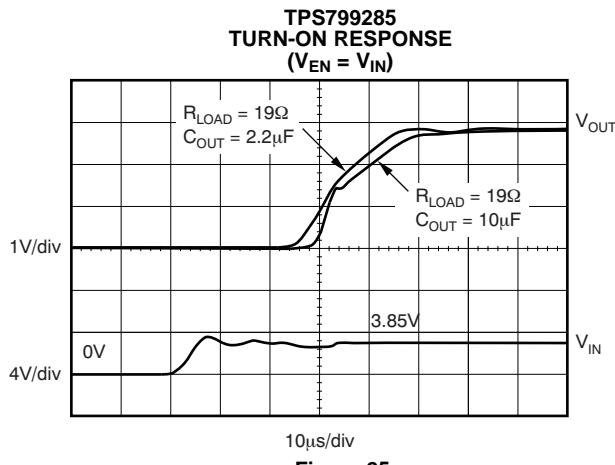
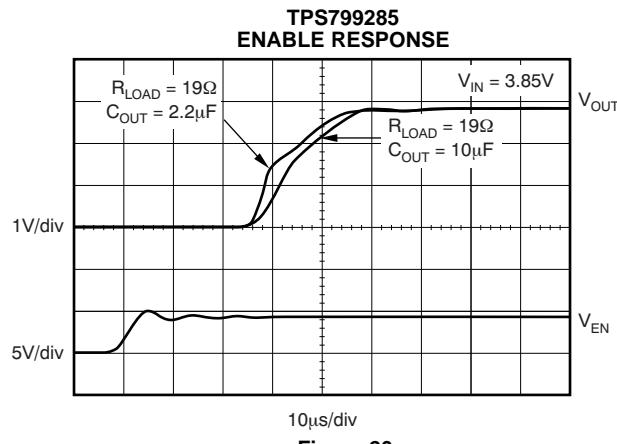

Figure 25.
Figure 26.
Note that for fastest startup, V_{IN} should be applied first, then the enable pin (EN) driven high. If EN is tied to IN, startup will be somewhat slower. Refer to Figure 25 and Figure 26 in the *Typical Characteristics* section. The quick-start switch is closed for approximately 135μs. To ensure that C_{NR} is fully charged during the quick-start time, a 0.01μF or smaller capacitor should be used.